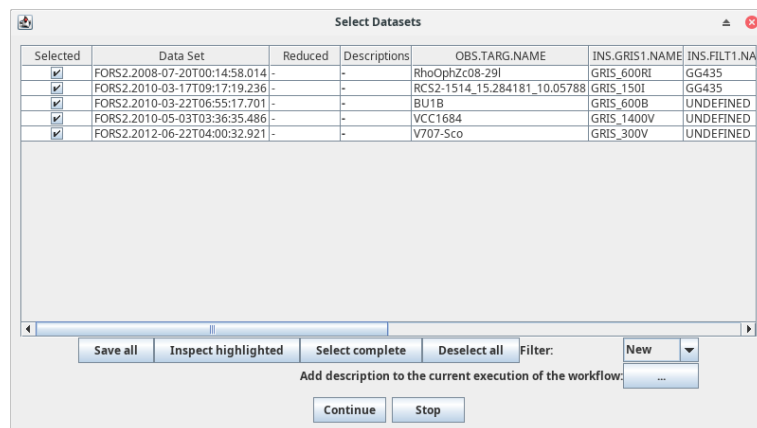

Figure 6.3: The “Select Datasets” pop-up window.
7. The `Data Set Chooser` actor will be highlighted next and will display a “Select Datasets” window (see Figure 6.3) that lists the datasets along with the values of a selection of useful header keywords⁶. The first column consists of a set of tick boxes which allow the user to select the datasets to be processed. By default all complete datasets which have not yet been reduced will be selected. A full description of the options offered by the `Data Set Chooser` will be presented in Section 9.3.2.